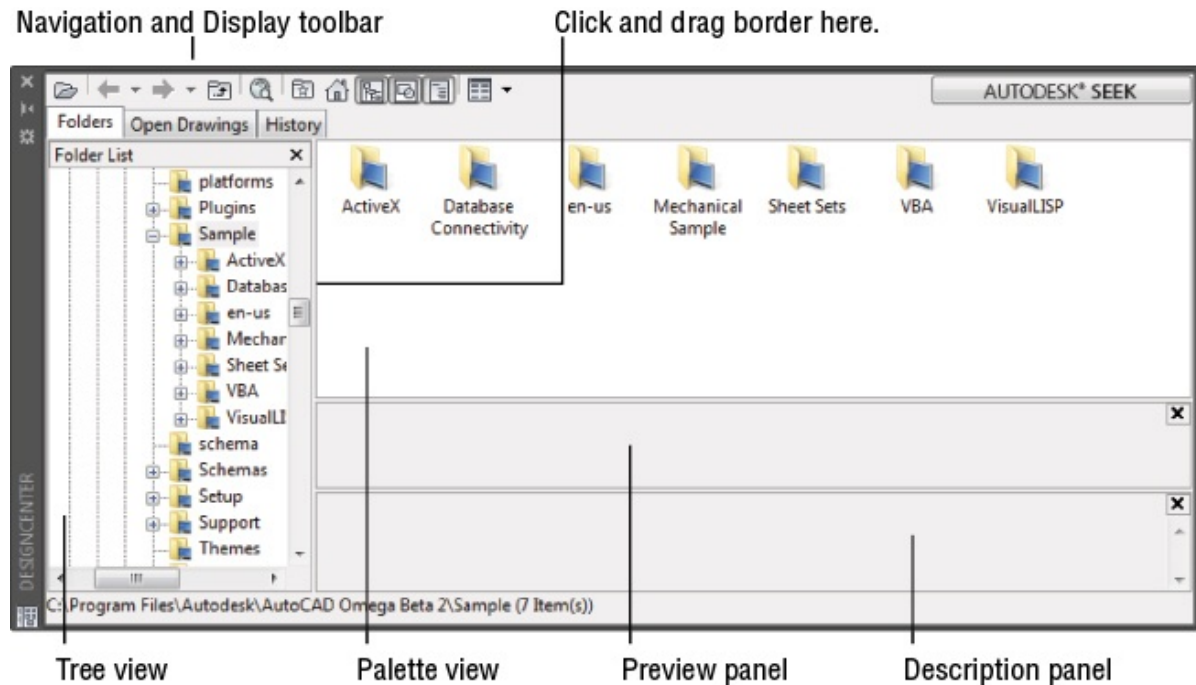

FIGURE 25.27 The components of the DesignCenter palette
4. Place your cursor in the lower-right corner of the DesignCenter window so that a double-headed diagonal arrow shows. Then click and drag the corner out so that you have an enlarged DesignCenter window that looks similar to Figure 25.27. The view on the right, containing the Favorites folder, is called the Palette view. The view on the left is called the Tree view.